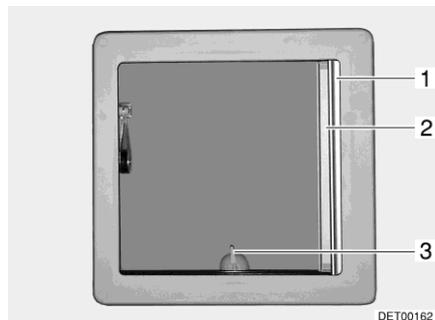
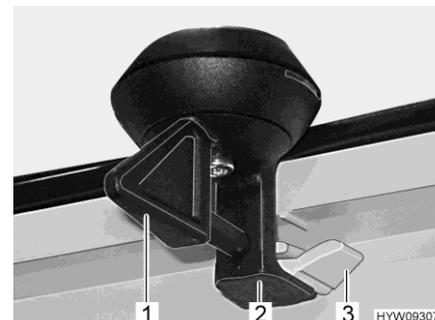

Fig. 73 Hinged skylight
Fig. 74 Lock (hinged skylight)
- Turn the lever (Fig. 73,3 or Fig. 74,1) one quarter turn.
- Turn the lever one quarter turn. The lock (Fig. 74,2) must slide into the bottom catch (Fig. 74,3).
- Pull out Roman shade (Fig. 73,1) and release in the required position. The Roman shade will stay in that position.
- Pull insect screen (Fig. 73,2) out until it engages with the latch on the opposite side.